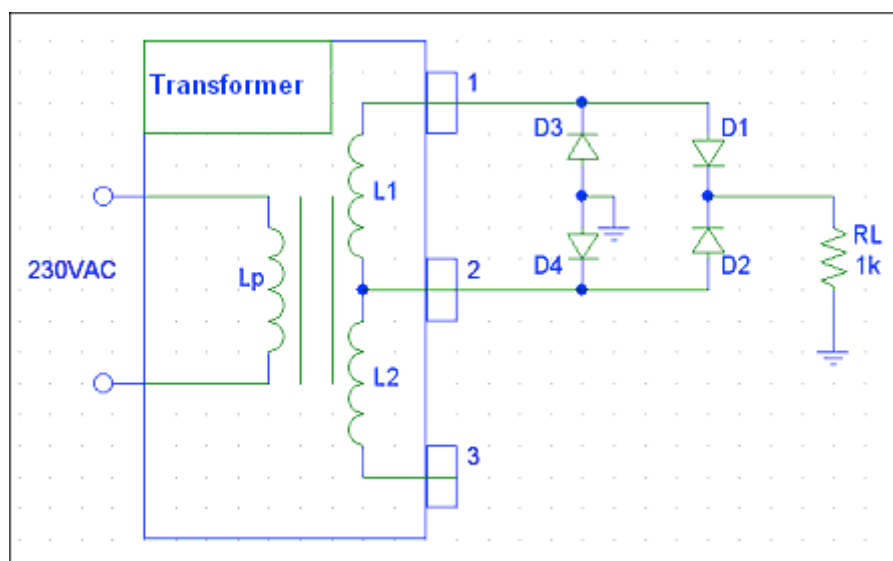

Fig. 3 Diode-bridge full-wave rectifier.
1. Solder the circuit illustrated in fig. 3.